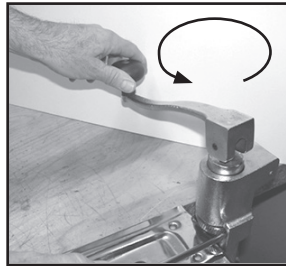

Figure 9
3. Gently turn the handle counter clockwise to unscrew. (Figure 9)